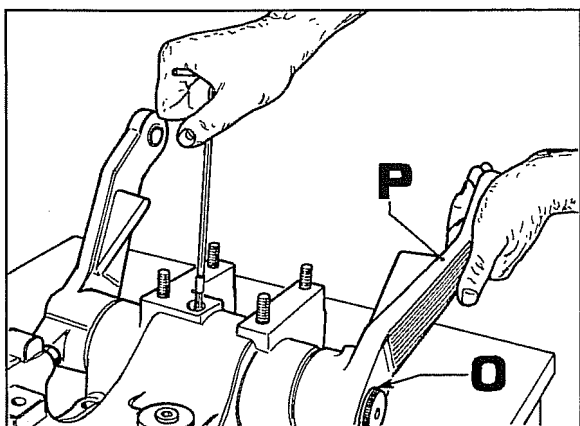

Fig. 32
- Remove the vent plug on the lift casing. In the hole where the plug was, find the linkrod fixing grub screw by moving the lift arms by hand as shown in Fig.32. Screw the grub screw out.